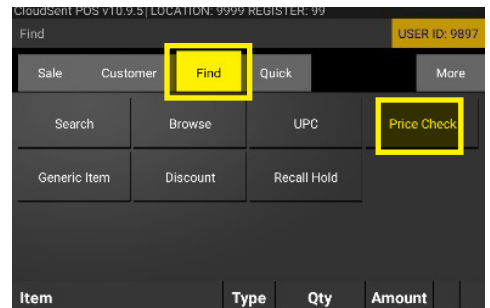

Figure 41
- Tap Find on the tablet (Figure 41).